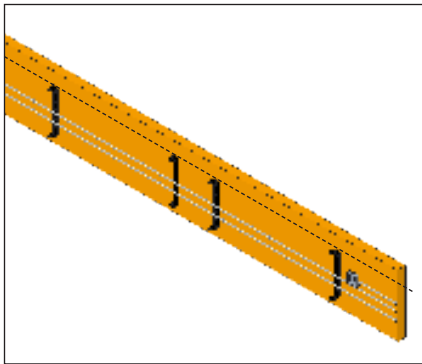

Figure 1: C-Clip Alignment
- 1. Level the C-clips according to the contract-specific Shop Drawing and their relation to the other clips. Refer to **Figure 1**.